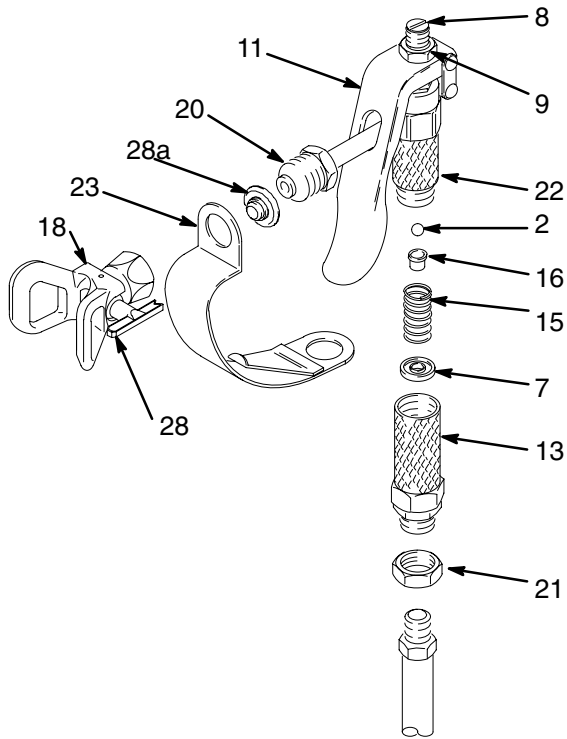
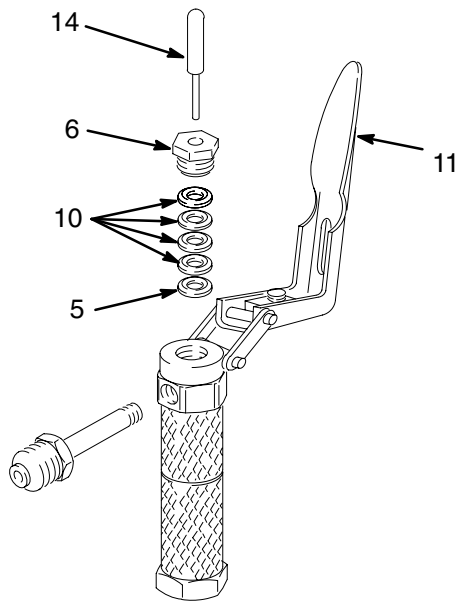

Fig. 4 03959A
Fig. 5 03962A
See Fig. 4 and Fig. 5.
3. Unscrew the nut (21). Remove the trigger guard (23).
4. Unscrew the nipple (20).
5. Remove the locknut (9) and screw (8).
6. Swing the trigger (11) out of the way. Unscrew the packing nut (6). Remove the valve stem (14). Use a wire hook to pull the packings (10) and gland (5) out of the body (22). See Fig. 5.
7. Unscrew the lower body (13) from the upper body. Remove the spring (15), retainer (16), and ball (2). See Fig. 4.
9. Install the support (7), spring (15), retainer (16) and ball (2) in the lower body (13). Screw the lower body firmly into the upper body (22). See Fig. 4
10. Lubricate the packings (10) and gland (5). Install these parts one at a time into the gun body (22). Install the valve stem (14) and packing nut (6). See Fig. 5.
11. Flip the trigger down and install the screw (8) and locknut (9).
12. Screw the nipple (20) into the gun body (22).
13. Install the trigger guard (23) and secure with the locknut (21).